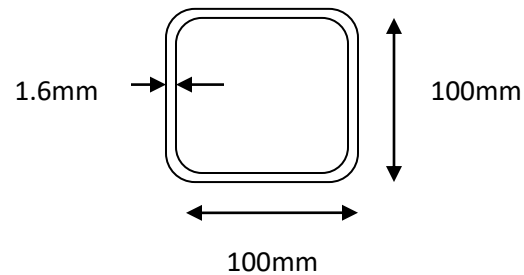

Fig 2
b. Compute the allowable load for the following data of the light gauge column of cross section as in Fig 2, of length 3.2m, pinned at both ends. Assume Yield Stress  $f_y=235\text{N/mm}^2$ . 8 Marks